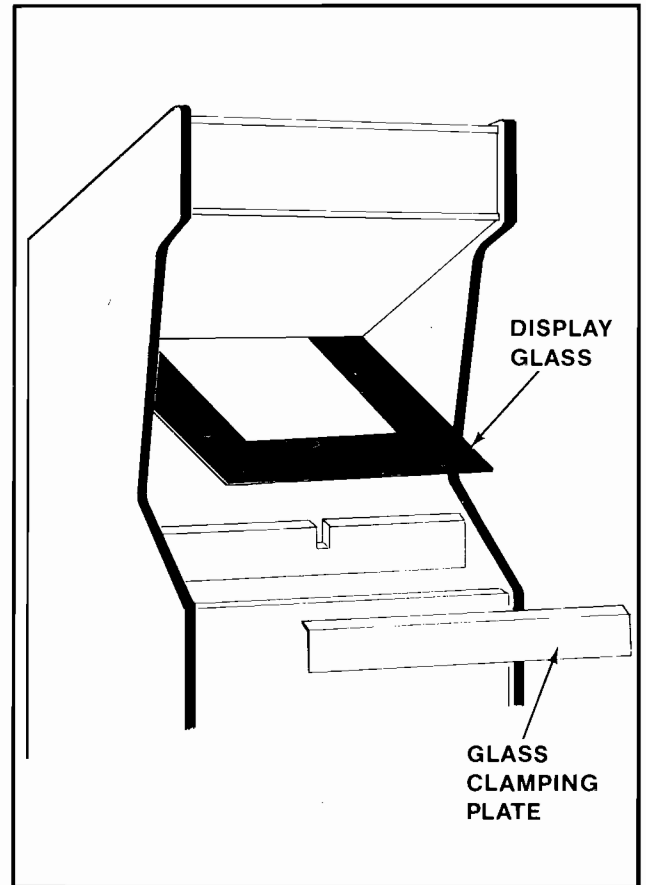

Figure 4-5 Removal of Main Display Glass & T.V. Bezel — Upright
**1. UPRIGHT MODEL:** See Figure 4-5.
- By putting your finger in the hole in the middle of the main-display-glass support, you can lift it up and out. See Figure 4-5.